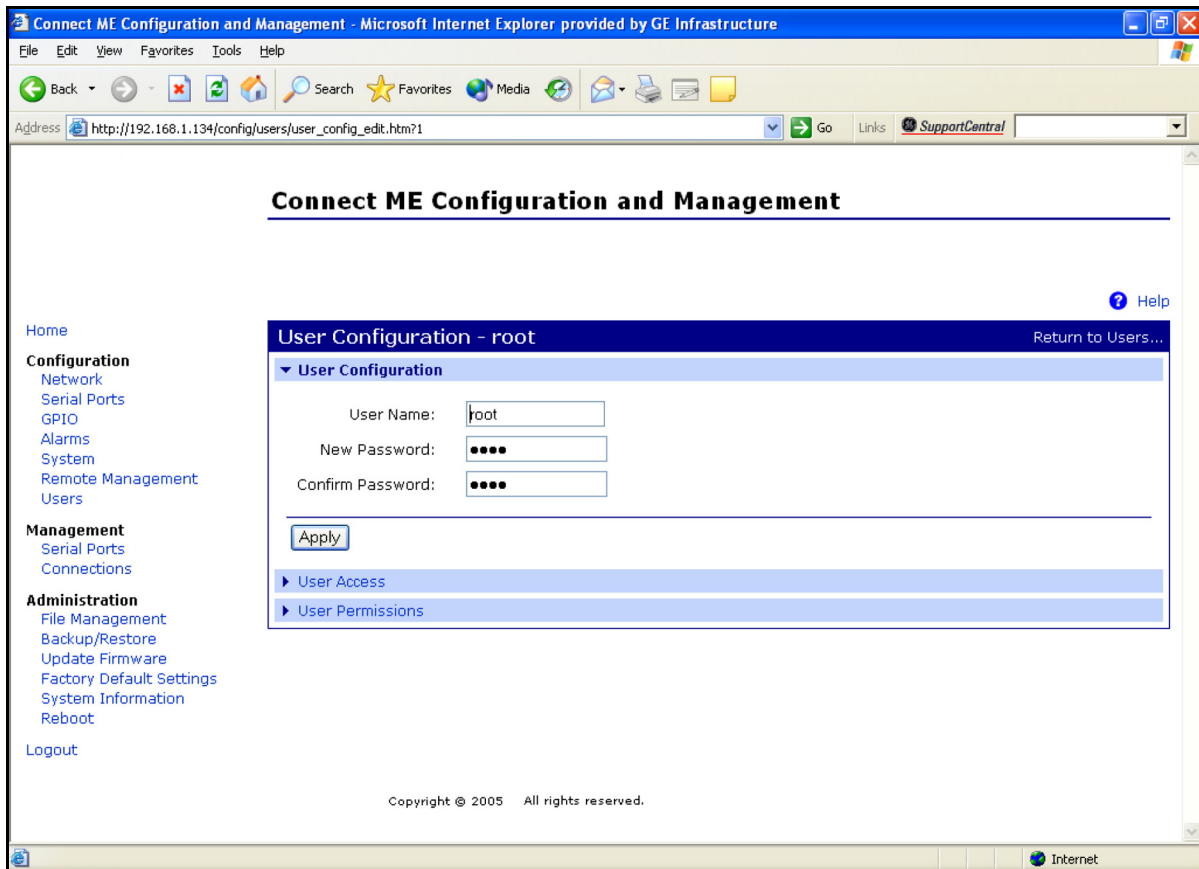

Figure 26: Changing the User Name and/or Password
5. Click on **New....** Figure 26 on page 46 appears.